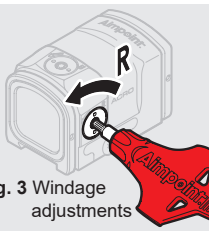
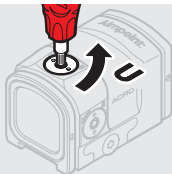

Fig. 3 Windage adjustments
Fig. 4 Elevation adjustments
- b Use the Torx T10 of the Aimpoint tool (8D) to turn the adjustment screws (6) (7).
- c Windage adjustments (see Fig. 3):
- Turn windage adjustment screw (6) counterclockwise to move point of impact to the right (R).
- Turn windage screw (6) clockwise to move point of impact to the left.
- d Elevation adjustments (see Fig. 4):
- Turn elevation adjustment screw (7) counterclockwise to move point of impact up (U).
- Turn elevation adjustment screw (7) clockwise to move point of impact down.
- f Ensure the sight is securely installed on the weapon and retighten the screw (5) if necessary.